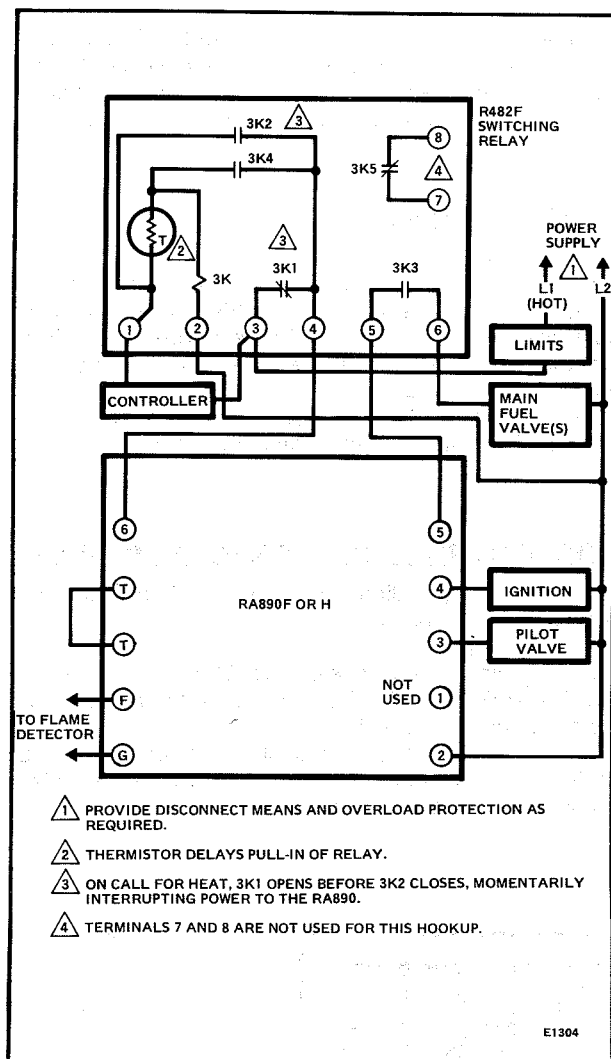

FIG. 6—HOOKUP FOR USING THE RA890F TO MONITOR A PILOT DURING THE OFF CYCLE.
2. If the RA890E being replaced is used in a circuit designed to monitor the pilot during the off cycle (flip-flop circuit), the circuit must be changed to that shown in Fig. 6.
HOOKUP FOR PROVIDING SAFE-START CHECK ON STANDING PILOT APPLICATIONS (Flip-flop circuit, Fig. 6)